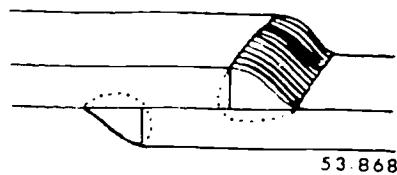
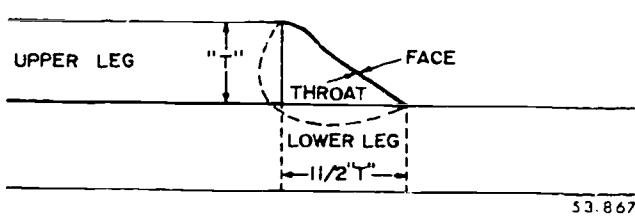

Figure 3-10. Double fillet lap joint.
Figure 3-9. Single fillet lap joint.
The two most common lap joints used to join metals by arc welding are the *single fillet lap joint*, figure 3-9, and the *double fillet lap joint*, figure 3-10. The single fillet lap joint is used frequently, since it requires no machining to fit the edges of the plate. If the loading is not too severe, this joint is suitable for welding plates of all thicknesses; but if fatigue or impact loads are
*Weld requirements for lap joints.* When the lap weld (figs. 3-9 and 3-10) is properly made, the upper leg will equal the thickness of the metal. The lower leg will equal  $1\frac{1}{2}$  times the metal thickness, while the throat thickness should equal the thickness of the base metal.